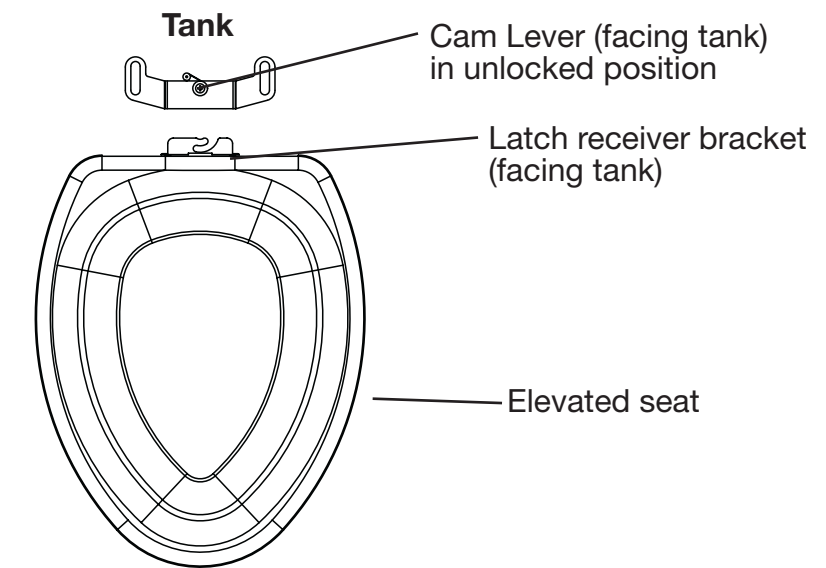

Figure 1
2. Place Elevated Seat with Latch Receiver Bracket onto the porcelain bowl so that the receiver bracket is facing toward the toilet tank (see Figure 1).
6. Position the Locking Latch Lever Bracket so the cam lever is facing toward the tank. Move the cam lever into the unlocked position (see Figure 1).
1. Move the cam lever on the Locking Latch Lever Bracket into the unlock position (see Figure 1).